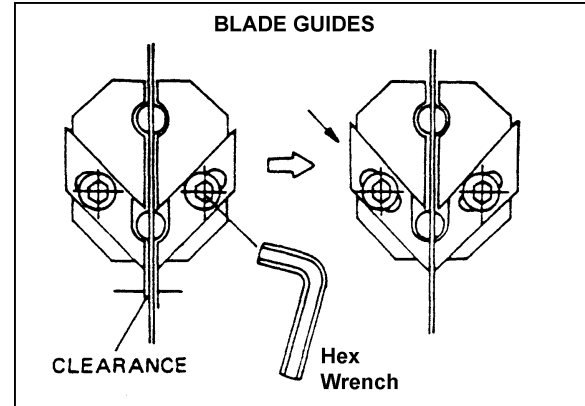

Figure 8
1. Loosen the two socket head cap screws on the guide housing. See Figure 8.
2. Move the guide support forward or backward to match the width of the blade. The front end of the blade guides should be adjusted approximately 1/8" behind the blade teeth. See Figure 8.